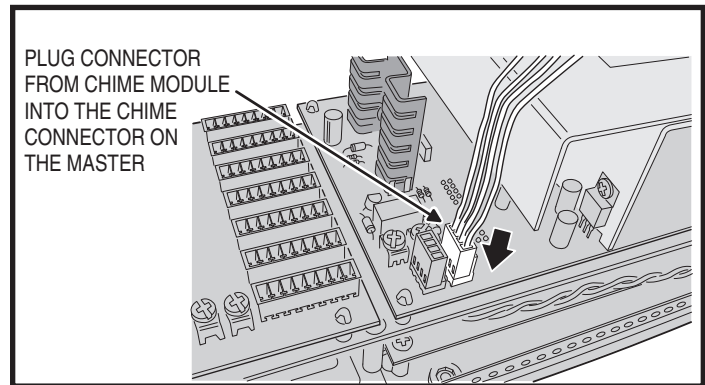

Figure 15. Chime Module Connection to Master Station
2. If a chime module was installed, plug the chime module's connector into the CHIME connector on the dmc1 circuit board (see Figure 15).